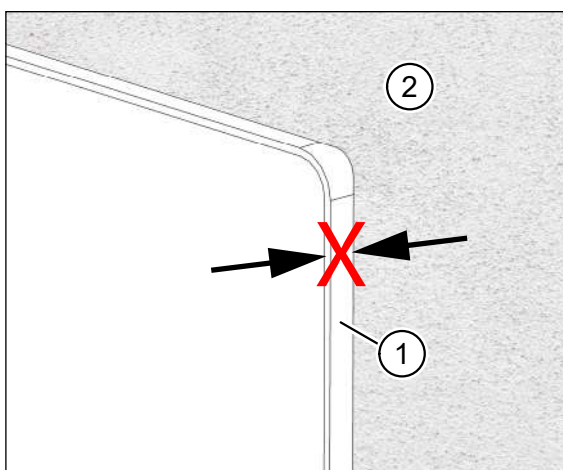

Fig. 25: Plastering trim protrudes over plaster
- The plastering trim (item 1 in Fig. 25) protrudes above the plaster (item 2 in Fig. 25).